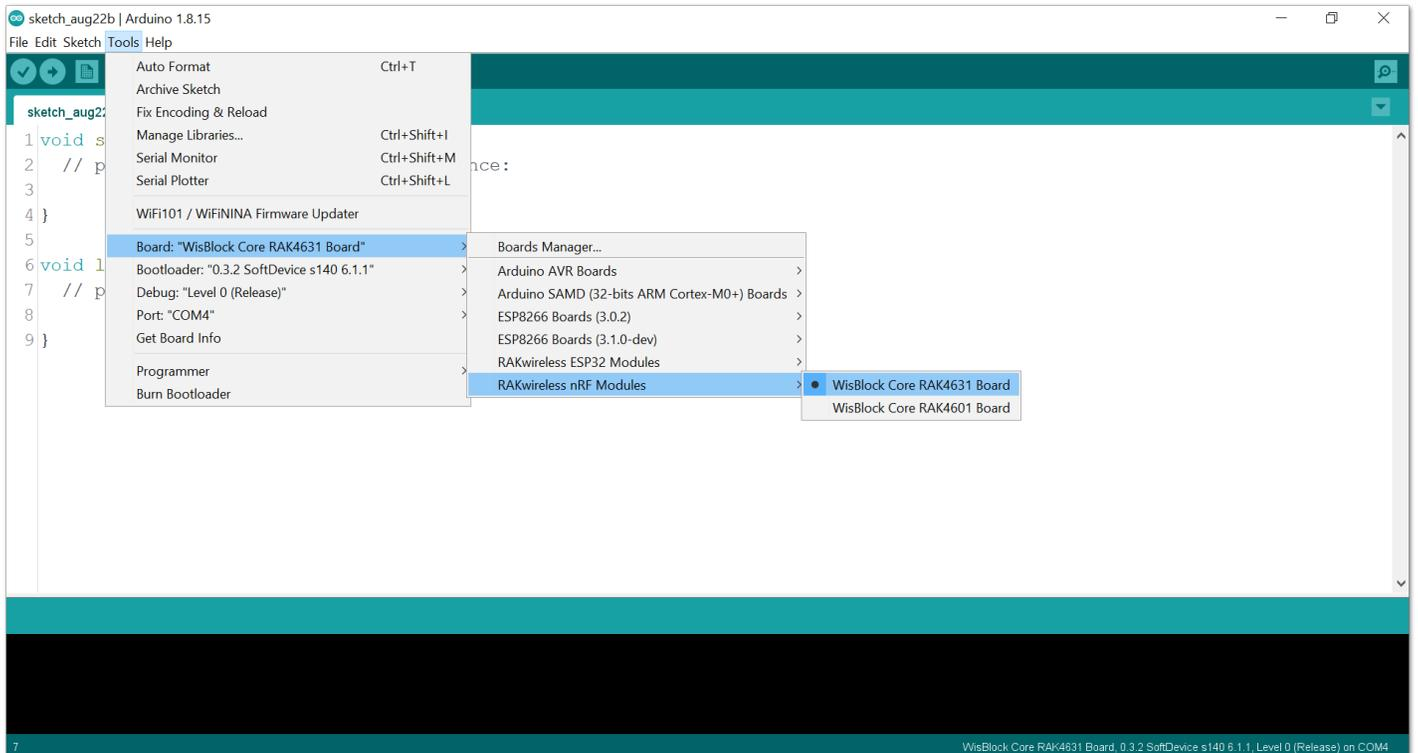
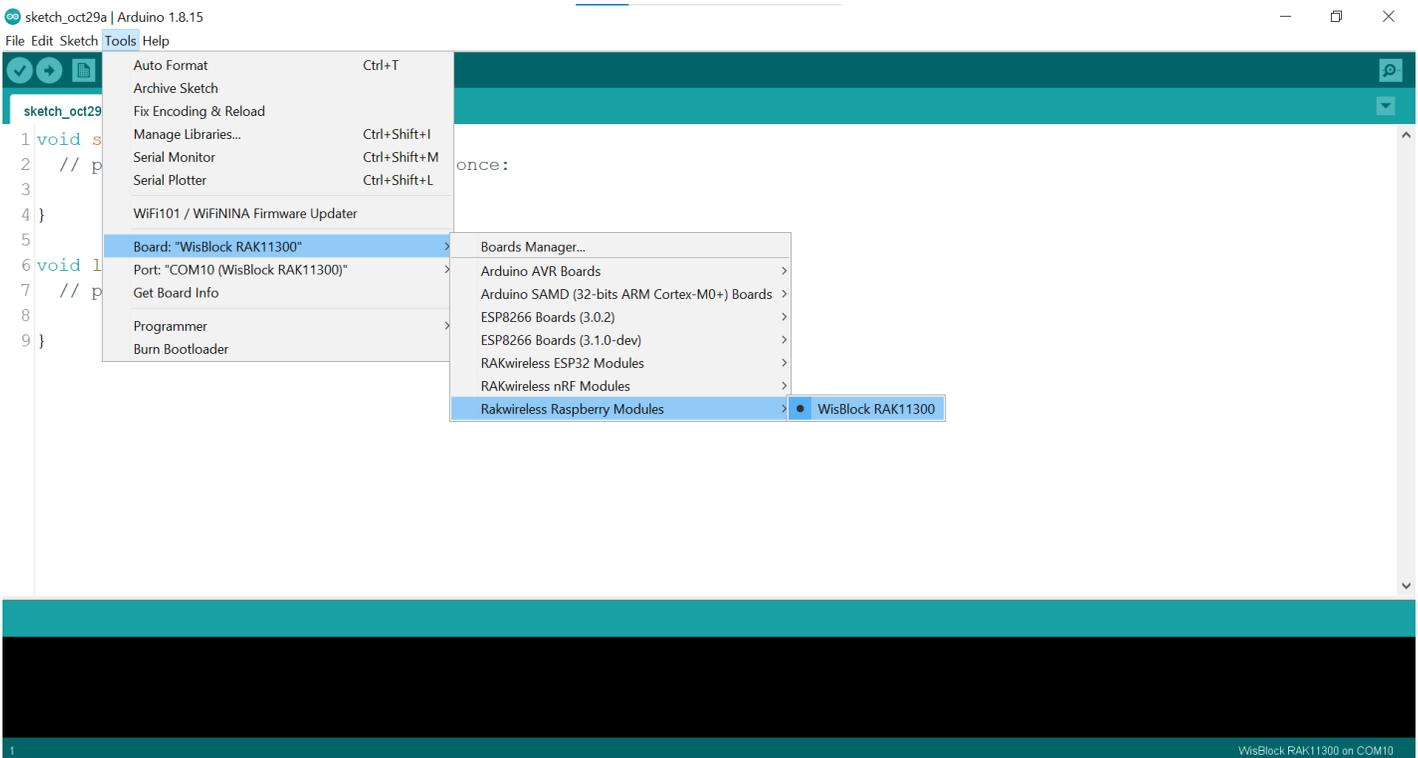

Figure 7: Selecting RAK4631 as WisBlock Core
Figure 9: Selecting RAK11300 as WisBlock Core
1. You need to select first the WisBlock Core you have, as shown in **Figure 7** to **Figure 9**.